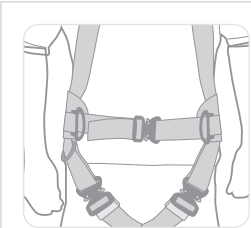

Figure 15
- Where included (RH3 harness only), connect the waist belt buckle at the front, and adjust the strap by pulling the strap through the buckle to achieve a snug fit (Figure 15).